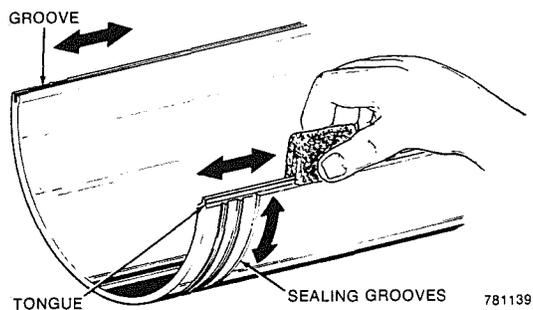

Figure 24. Scuff Tongue, Groove, and Sealing Grooves
7.03 Sleeve halves must have a clean, dry surface for sealing. Scuff tongue and groove with the SCOTCHBRITE pad until the surface gloss is removed. Force pad onto tongue shoulders and into groove. (Figure 24)
7.04 Scuff end cap sealing grooves with the SCOTCHBRITE pad to remove all burrs and surface roughness. (Figure 24)